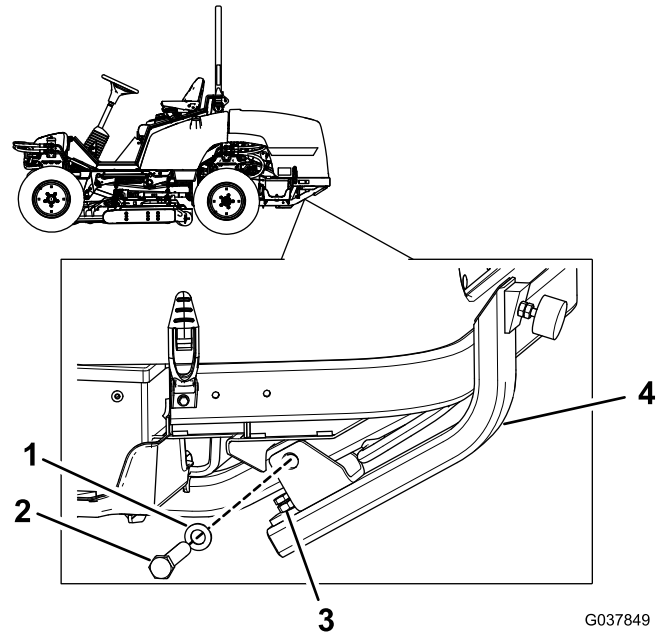

Figure 1
2. Loosen the jam nut on the adjusting bolt on the end of a bumper and lower the adjusting bolt as far as it can go (Figure 1).
3. Install the bumper to the machine frame using a large bolt, washer, and nut from the bumper assembly; do not tighten the fasteners (Figure 1).